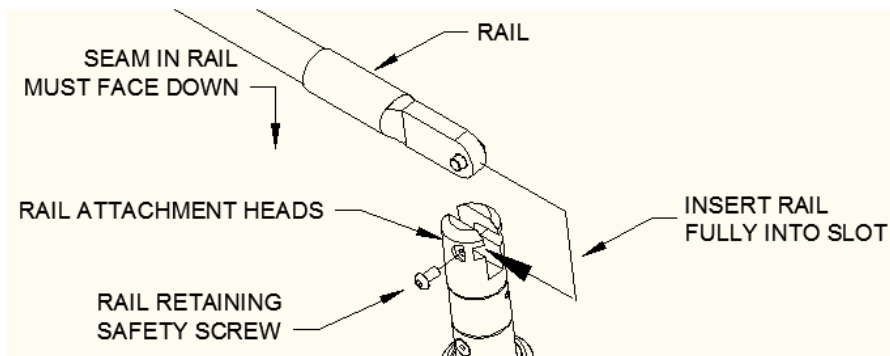

Figure 4a
2. Attach the rail to the head on the adjusting tube as shown in **Fig. 4a & b**. There is a seam in the veneer of the rail that should face down when it is installed.